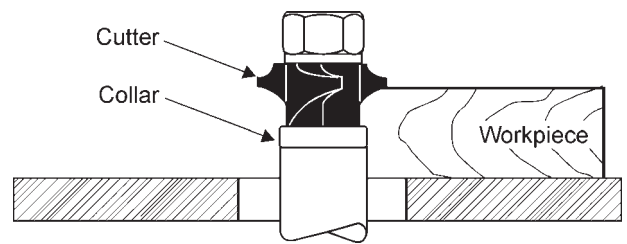

FIGURE 22
1. When the collar is used below the cutter, as in Figure 22, the progress of the cut can be seen throughout the operation. However, any accidental lifting of the work will gouge the wood and ruin the workpiece.